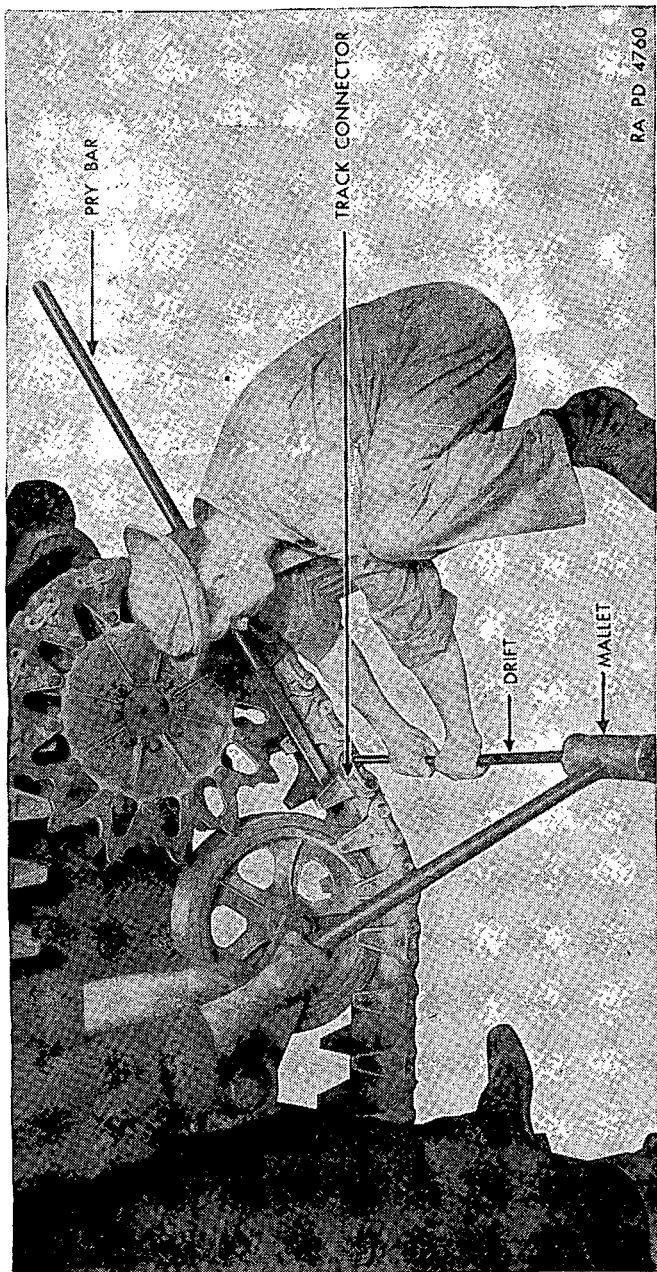

FIGURE 81.—Removal of outside track connector
(4) Lock track idler	Pliers, Wrenches, 3¼-in., O. E., 1½-in., O. E.	If serrations do not engage, tighten track adjusting nuts until they do engage. Do not move track adjustment nuts more than one-half turn from the correct setting. Tighten trailing idler gudgeon nuts and install cotter pins.
d. Disconnect track (figs. 81 and 82).—(1) Be sure vehicle is on level ground. Engage brakes, loosen trailing idler (c (1) and (2) above), and proceed as follows: